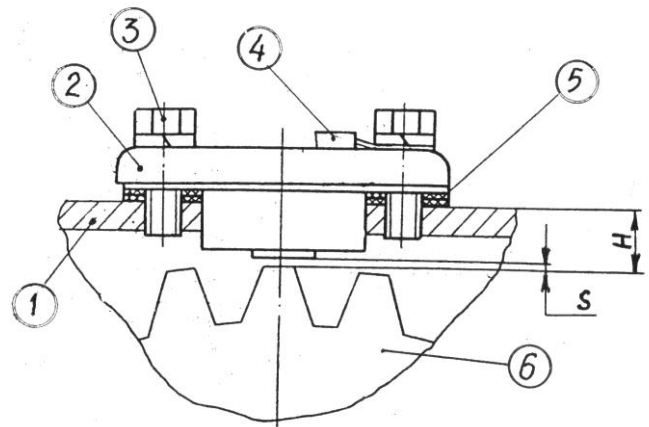

Fig. 6. Setting the speed sensors:
1.13. Setting and Adjustment of the speed sensors (BV1, BV2) (Fig. 6)